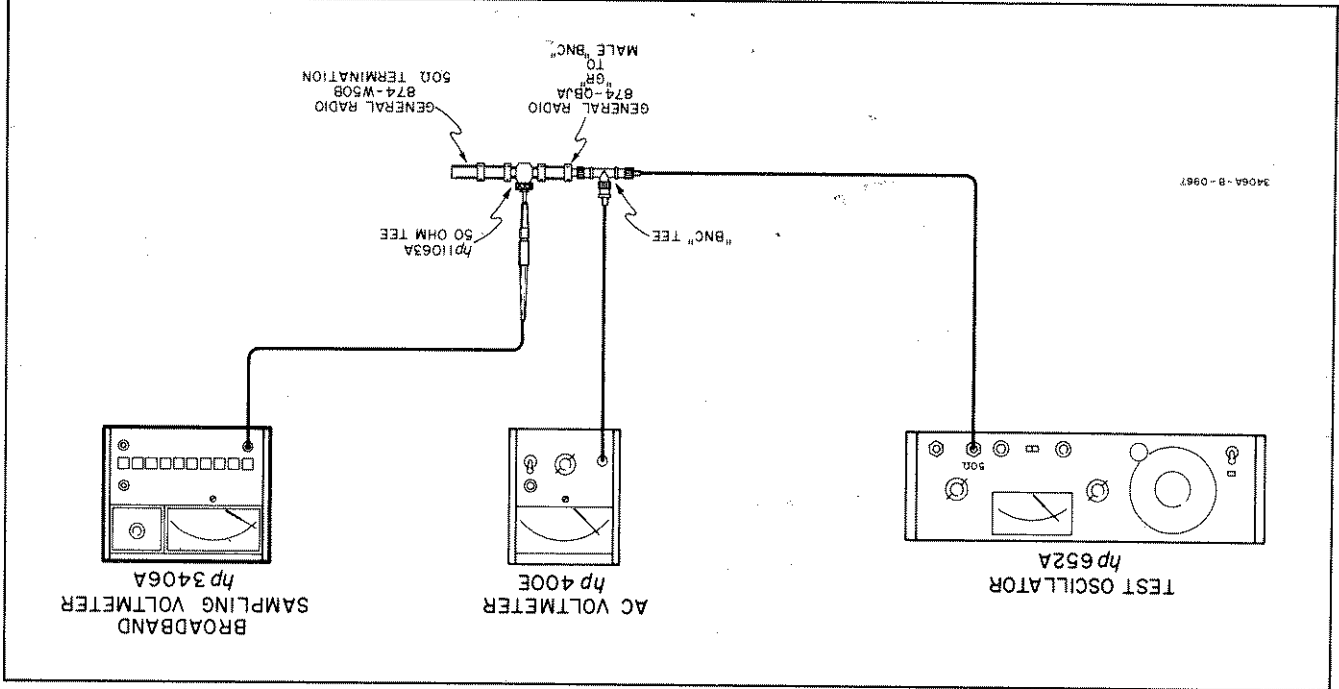

Figure 5-7. Tracking Adjustment Setup
- b. Connect test setup illustrated in Figure 5-7; set oscillator output frequency to 1 MHz; and output voltage for .100 V indication on ac voltmeter, using -10 dBm setting on the oscillator.
- d. Adjust ⑫ .1 FS (A2R95) for 3406A meter indication of 0.1 on 0 to 1 scale.
- e. Using oscillator attenuator increase output 10 dB; adjust ⑬ .316 FS (A2R94) for 3406A meter indication of 1 on 0 to 3 scale (which is 0.316 of FS on 0 to 1 scale).
- f. Using oscillator attenuator increase output 10 dB; adjust ⑭ FULL SCALE (A2R92) for 3406A meter indication of 1 on 0 to 1 scale.